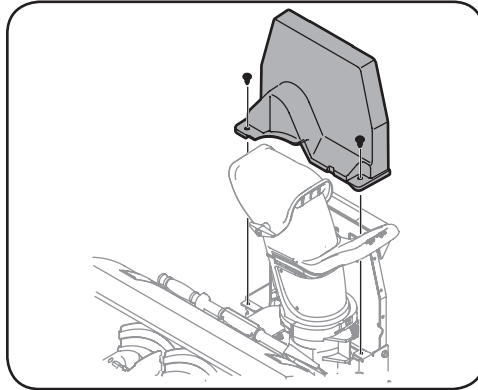

Figure 5-7
4. Remove the two self-tapping screws securing the belt cover to the auger housing and lift the belt cover up and away from the housing. Set belt cover and screws aside and save. See Figure 5-7.
11. Reinstall the belt cover with the two tap screws previously removed. See Figure 5-7.